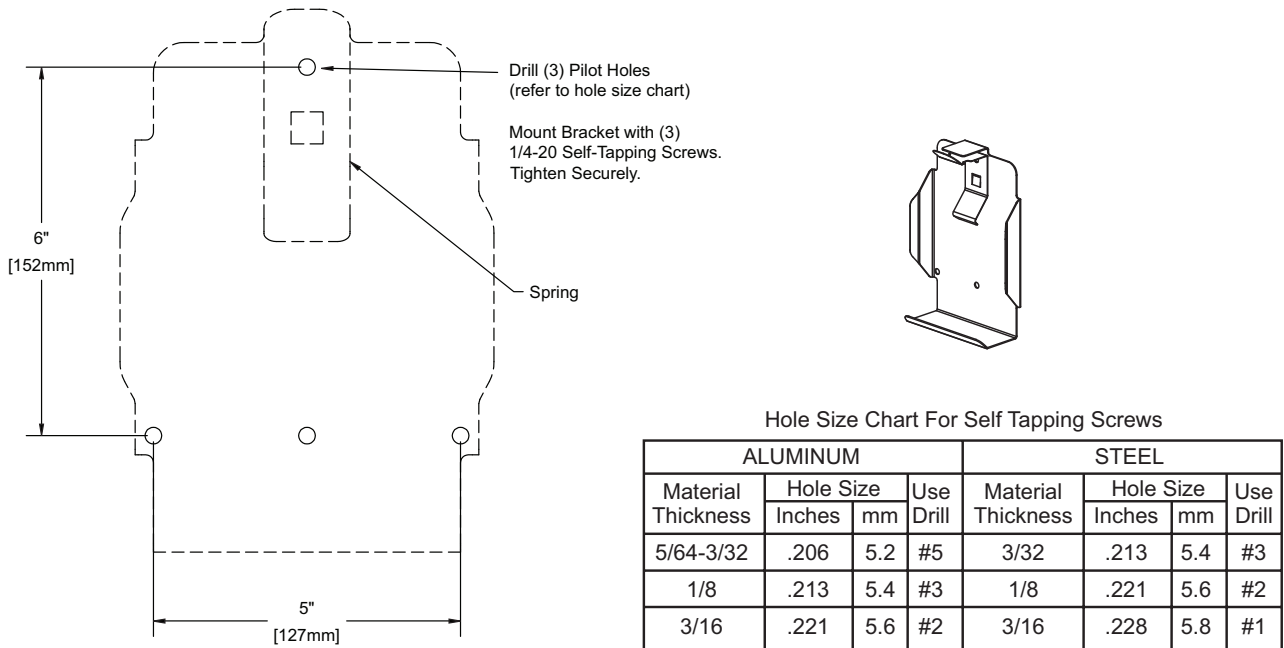

Figure 4.4.1
The storage bracket is supplied with (3) 1/4-20 stainless steel self-tapping screws. Make sure the material beneath the bracket is substantial and thick enough to hold self-tapping screws. Make sure the area on the backside of the mounting surface is clear of obstructions. We recommend a minimum thickness of 3/32" (.093" - 2.4 mm) in aluminum and 5/64 (.078"-2mm) in steel See the chart in Figure 4.4.1 to determine the correct pilot hole size. Select proper location for mounting storage bracket. Panel space required will be 6.0" x 11.2" (152 x 285mm). Refer to Figure 4.4.1 for hole dimensions. Bracket can be used as a template. **Be sure spring is in position.**
The storage bracket is supplied with (3) 1/4-20 stainless steel self-tapping screws. Make sure the material beneath the bracket is substantial and thick enough to hold self-tapping screws. Make sure the area on the backside of the mounting surface is clear of obstructions. We recommend a minimum thickness of 3/32" (.093" - 2.4 mm) in aluminum and 5/64 (.078"-2mm) in steel See the chart in Figure 4.4.1 to determine the correct pilot hole size.
Select proper location for mounting storage bracket. Panel space required will be 6.0" x 11.2" (152 x 285mm). Refer to Figure 4.4.1 for hole dimensions. Bracket can be used as a template. Be sure spring is in position.